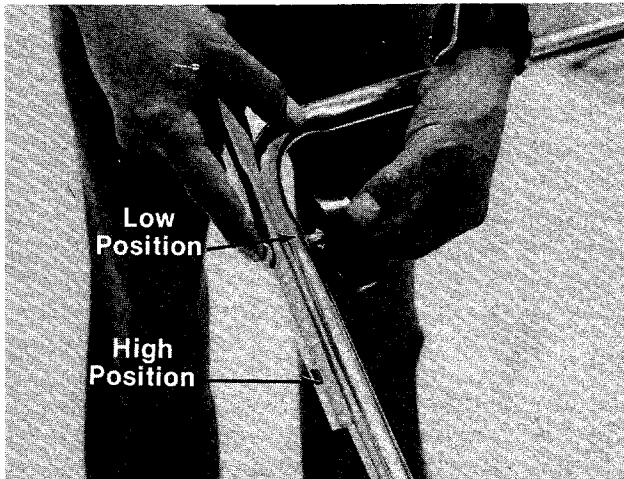

FIGURE 8.
4. There are two height positions for the handle. Place upper handle in position over lower handle, selecting hole for either high or low position. See figure 8.
The upper handle can be adjusted to a high or low position. The operator of the lawn mower can easily adjust the handle position by unscrewing the two knobs, removing the two bolts and reassembling in the other position. No tools are necessary to make this adjustment. See figure 8.